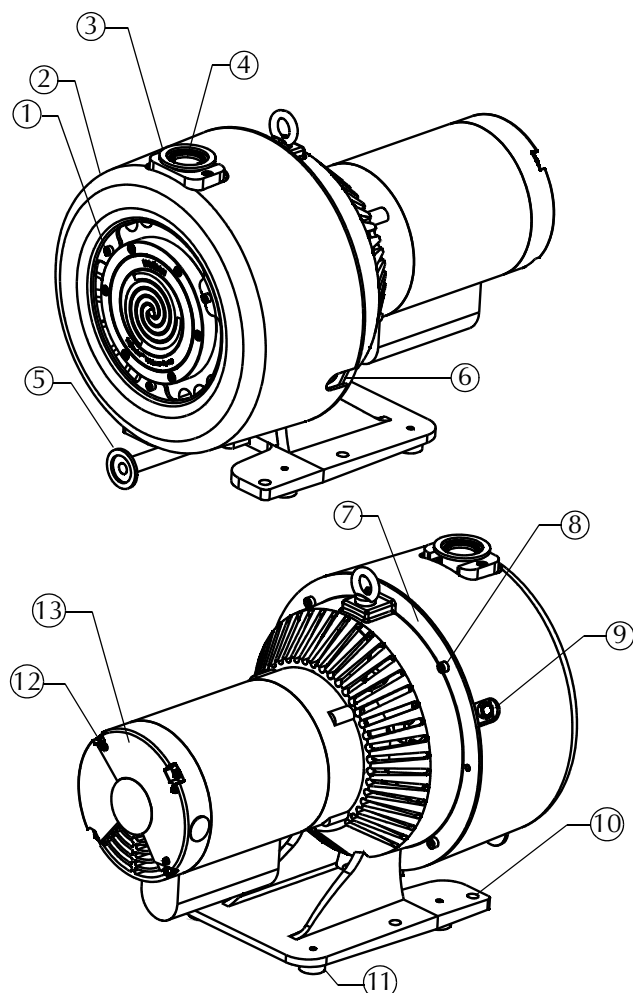

Figure 3 TriScroll 620 Vacuum Pump
2. Remove the three screws (item 12 in Figure 3 on page 11) that are holding the motor electrical cover (item 13 in Figure 3).
1. Remove three (3) M5 screws (item 1 on Figure 3 on page 11) that secure the cowling (item 2 on Figure 3) to the scroll module. Remove the cowling.
3. Remove the four (4) M6 screws (item 8 on Figure 3) holding the frame (item 7 on Figure 3) and scroll module together.
5. Rotate the module 90 degrees in either direction and realign the two (2) locating pins on the scroll module with the mating frame holes. Ensure that the rubber spider is still on the motor coupling and that the coupling teeth are properly aligned.
6. Rejoin the scroll module with the frame and install and tighten the four (4) M6 screws removed in step 3.
7. Reinstall the cowling using the three (3) M5 screws removed in step 1.